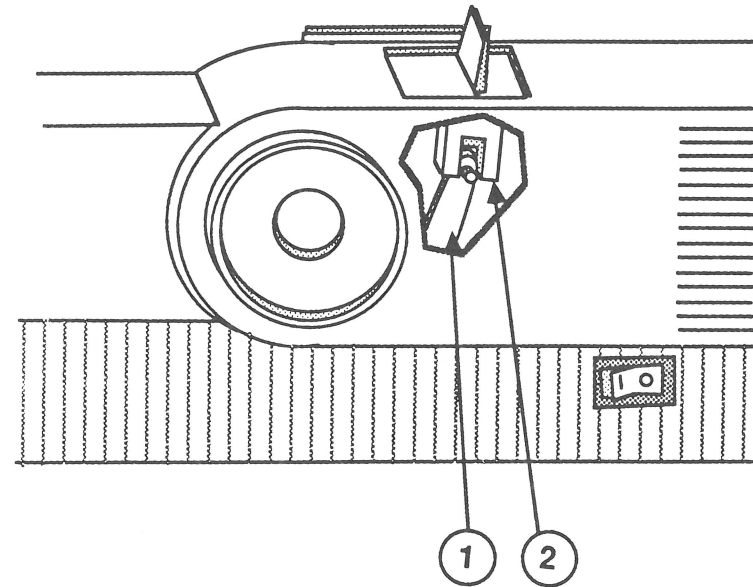

FIGURE 6
- a) The paper-feed arm (Figure 6, #1) should be engaged in the paper-feed lever (Figure 6, #2).